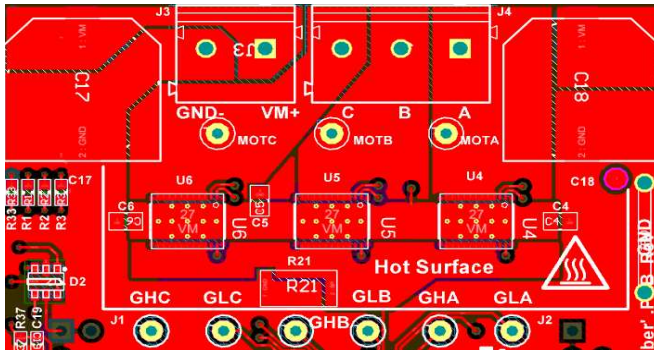

Figure 23. Top Layer
- Use the smallest drill size allowed by the design. The example in Figure 23 uses vias with a 10-mil drill hole and a 16-mil solder pad.